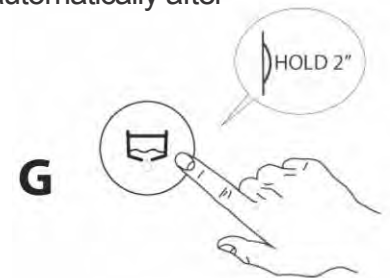

Fig. 13
- 3- Hold button "G" drain water until "DRAIN" appears on the control panel. (Fig.13)